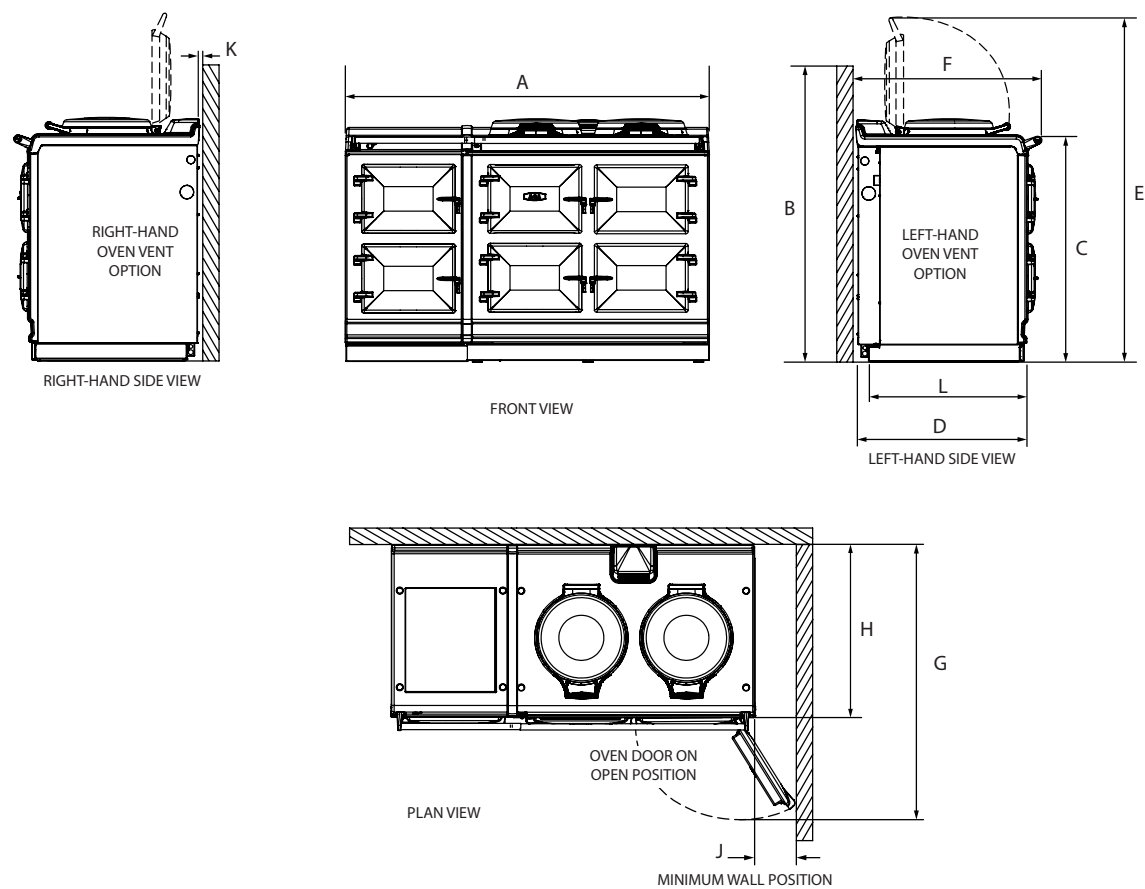

Fig. 14.2 DESN 517939
1. Fit the handrail bracket over the fixing stud located on the top plate. Lock into position by tightening the grub screw nearest the appliance **Fig. 14.2**.